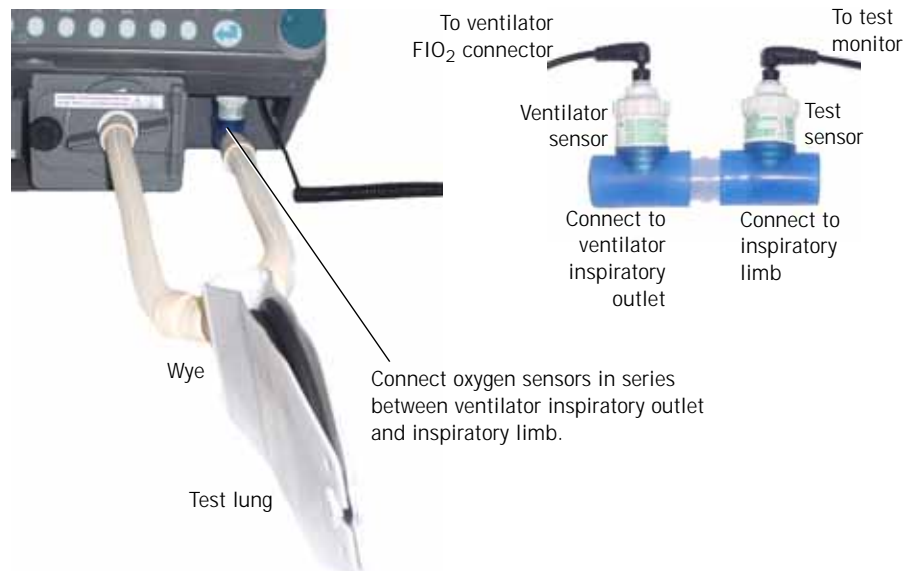

Figure 8-25: External Oxygen Sensor Connection
3. Connect the external oxygen monitor in series with the ventilator oxygen sensor (Figure 8-25).